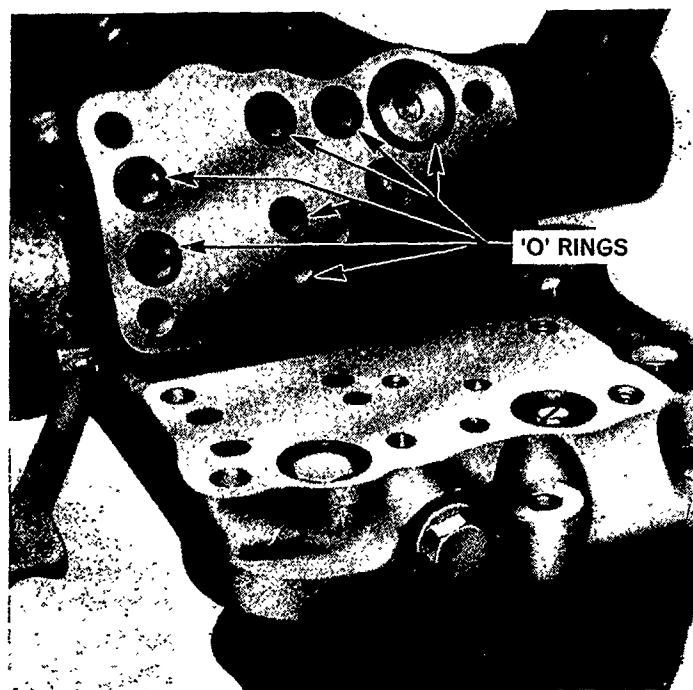

Figure 30
4. Install a new set of 'O' rings with accessory cover, Figure 30, assemble the lift cover assembly to the tractor and install the driver's seat.
19. Install a new set of 'O' rings in the various counterbores of the oil passages on the underside of the accessory cover, Figure 30. Make sure that the machined faces of the accessory cover plate and lift cover are clean. Locate the accessory cover and tighten the three retaining bolts to the specified torque.